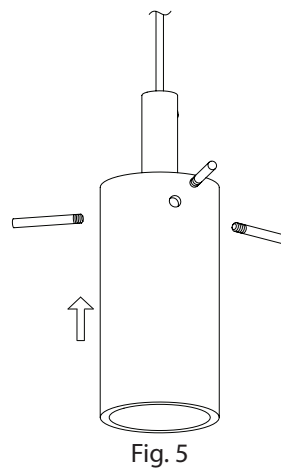
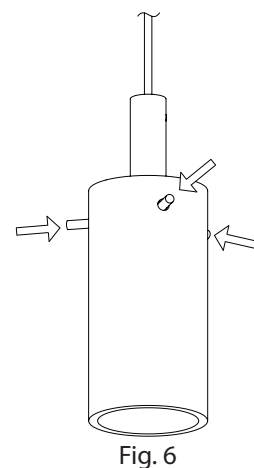

Fig. 5
Fig. 6
2. Raise the **Glass** and align the holes in the glass to the holes in the **Pendant Cordset** (Fig. 5). Secure the glass by inserting the **Threaded Pins** through the holes in the glass and screwing the pins into the Pendant Cordset. (Fig. 6)